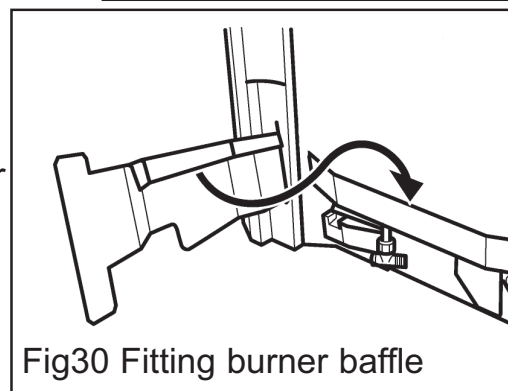

Fig30 Fitting burner baffle
**6.** Fit the burner baffle to the front flanges of the burner. To do this, place the baffle against the front flanges of the burner and lower into position. The return edges on the rear of the baffle should slot over the front flanges of the burner (See figure 30).